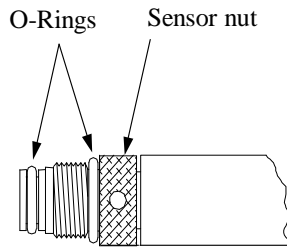

Figure 3.4 O-ring Lubrication
4. Apply a thin coat of o-ring lubricant (supplied in the YSI 5511 maintenance kit) to the o-rings on the connector side of the sensor (see Figure 3.4 O-ring Lubrication).